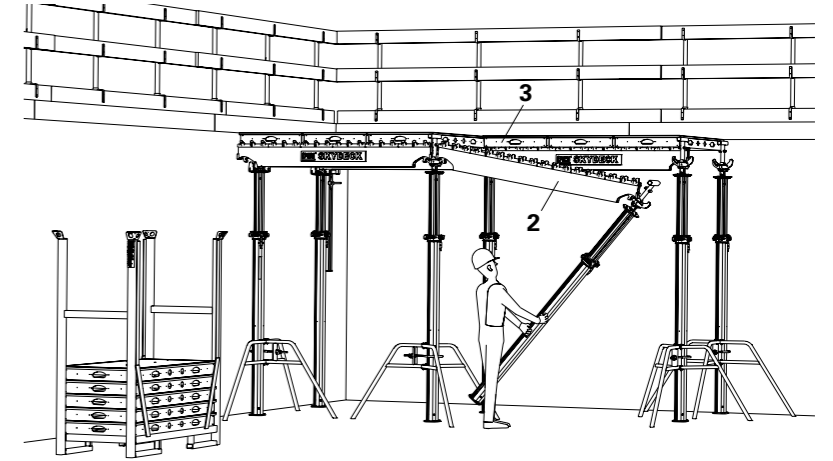

Fig. A4.15
1. Attach Main Beam SLT 225 (2) to the Drophead.
2. Connect prop with Drophead SFK in the lifted main beam. (Fig. A4.15)
4. Insert panels (3).